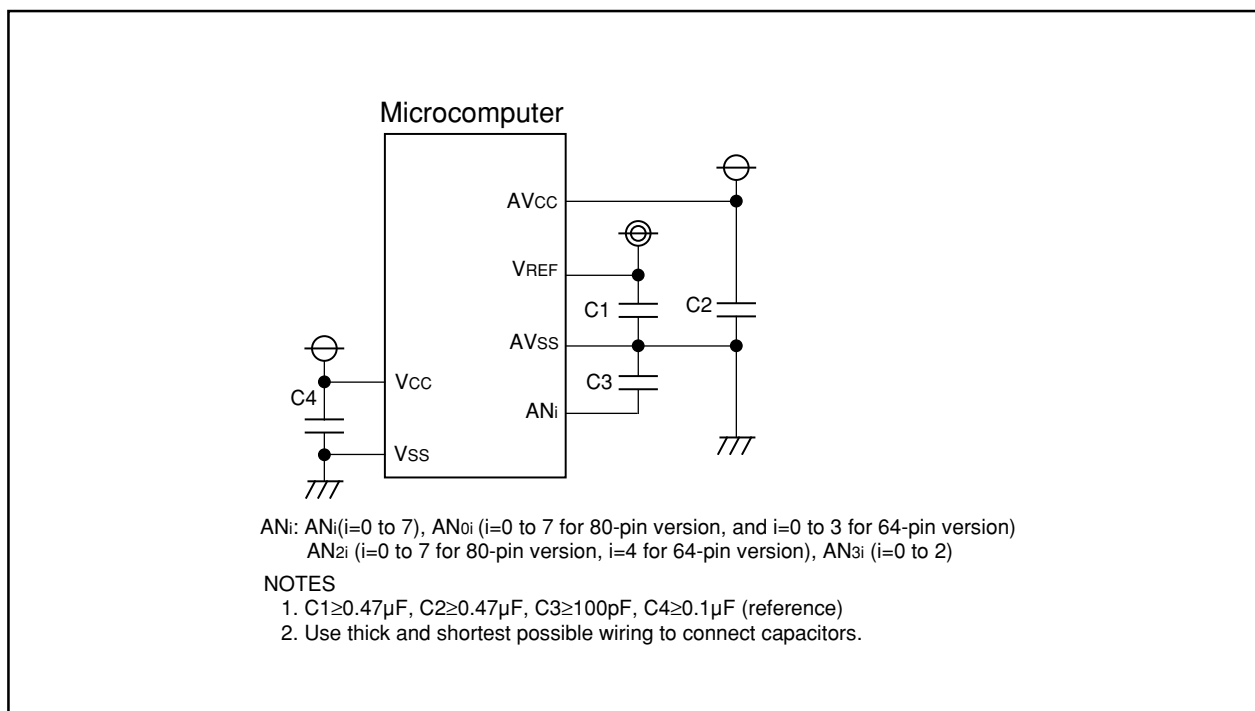

Figure 15.6.1 VCC, VSS, AVCC, AVSS, VREF and ANi Connections
- (1) Set the bit in the port direction register, which corresponds to the pin being used as the analog input, to "0" (input mode). Set the bit in the port direction register, which corresponds to pin  $\overline{ADTRG}$ , to "0" (input mode) if the external trigger is used.
- (2) When using a key input interrupt, do not use pins AN4 to AN7 as analog input pins (key input interrupt request is generated when the A/D input voltage is "L").
- (3) Insert capacitors between pins AVCC, VREF, analog input pin (ANi (i=0 to 7), AN0i and AN2i) and AVSS to prevent latch-ups and malfunctions due to noise, and to minimize conversion errors. The same applies to pins Vcc and Vss. Figure 15.6.1 shows the procedure of each pin.
- (4) Incorrect values are stored in the ADi register (i=0 to 7) if the CPU reads the ADi register while the ADi register is storing results from a completed A/D conversion. This occurs when a divided main clock or a sub clock is selected as the CPU clock.
- (5) Conversion results of the A/D converter are indeterminate, if the ADST bit in the ADCON0 register is set to "0" (A/D conversion halted) and the conversion is forcibly terminated, by program during A/D conversion. ADi registers not operating A/D conversion may also be indeterminate. If the ADST bit is changed to "0" by program, during the A/D conversion, do not use any values obtained from the ADi registers.